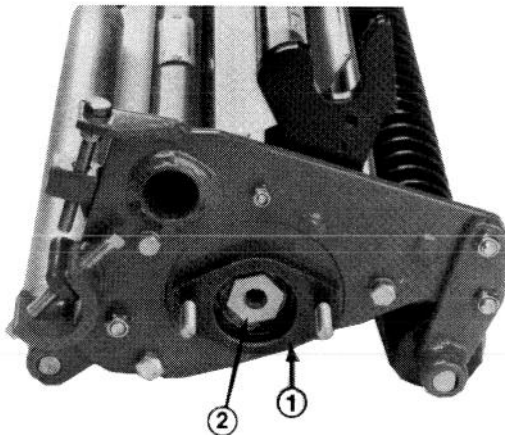

figure 11
3. Remove the large bearing adjustment nut from the counterbalance end of the reel shaft and the special spline nut (Fig. 11) at the opposite end of the reel shaft.